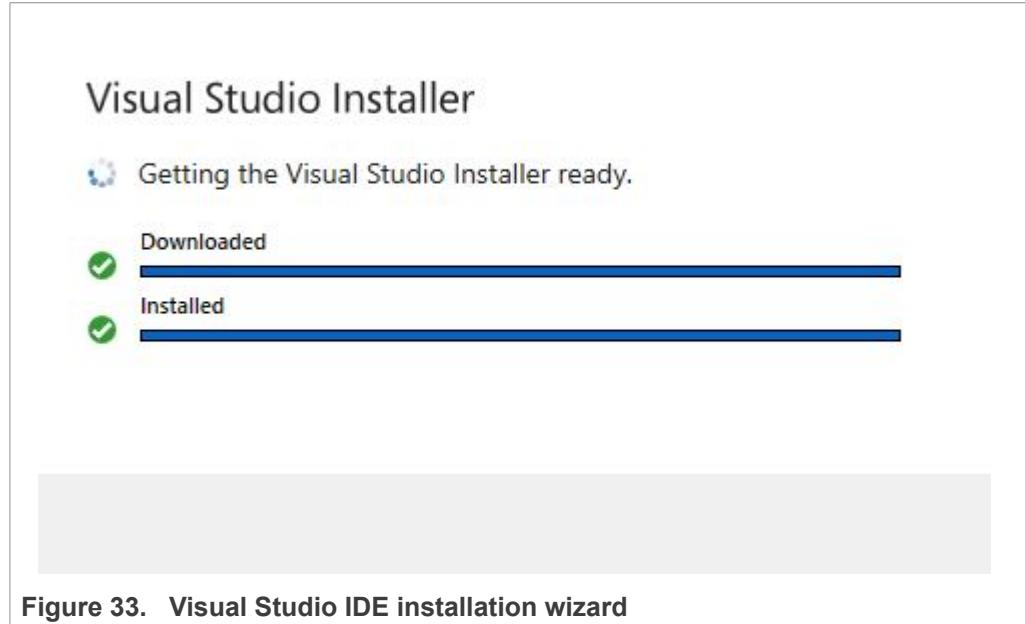

Figure 33. Visual Studio IDE installation wizard
3. An \*.exe installer will download to your laptop. Double click on the installer file and follow the setup wizard until the installation is completed. This process might take a few minutes. Figure 33 shows Visual Studio installation wizard as an example: